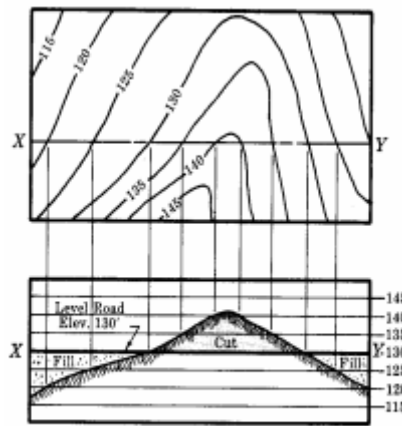

Fig 2 Profile of contour map
- Profile – a vertical section of the earth's surface containing a given line which may be either straight or curved. The length of the profile must be equal to the true length of the given line. (See Fig. 2)